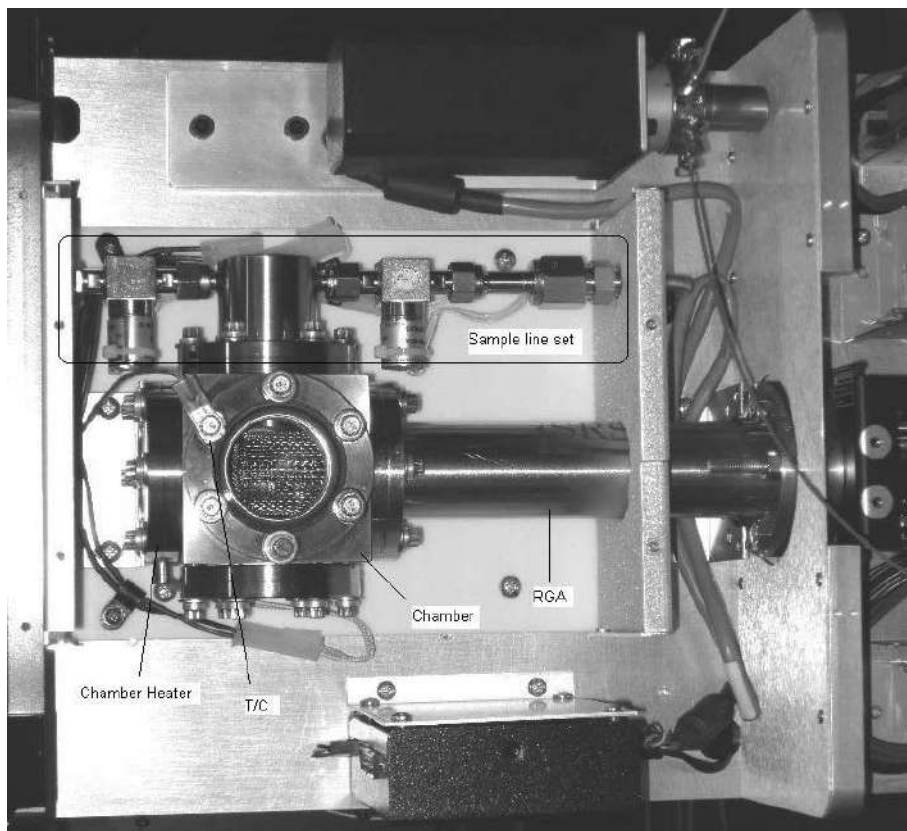

Figure 1-5a. Top Front Components
In Fig. 1-5a, the main chamber is shown. It consists of a sample line set, a cubic chamber, an RGA analyzer, a chamber heater (CHA), and a thermocouple. The sample line set is composed of 1/8" Ultra-Torr connector, sample valve (SV), 40 μm pinhole (50 μm pinhole for Option #3) port, bypass valve (BV), and bypass line. The sample line set, the RGA analyzer, and the chamber heater are attached to a 2.75" cubic chamber as shown in Fig. 1-5a.